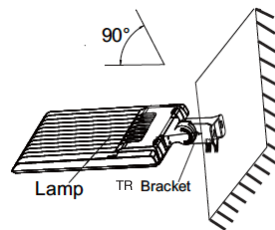

Fig. 23
3. Connect the fixture to the bracket and tighten the screws; connect the wires properly and put them into the junction box (Figure 23, Figure 23-1). Note: Adjustable angle is 0-90° (Fig. 23, Fig. 23-1)